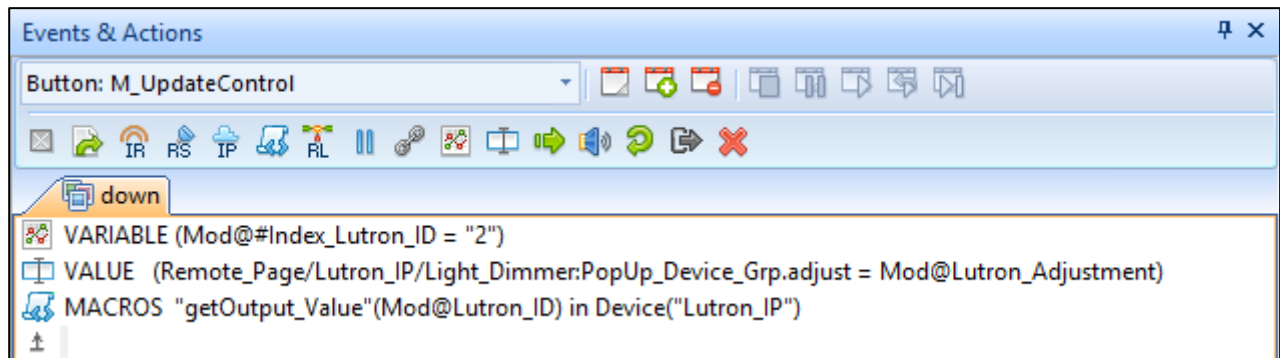

Figure 22 - M\_UpdateControl Events and Actions, “down” state
- d. For the newly created button, “M\_UpdateControl”, create a “down” event and add these three actions in this order: Variable Change, GUI Action, and Bi-Directional Macro Action (Figure 22).